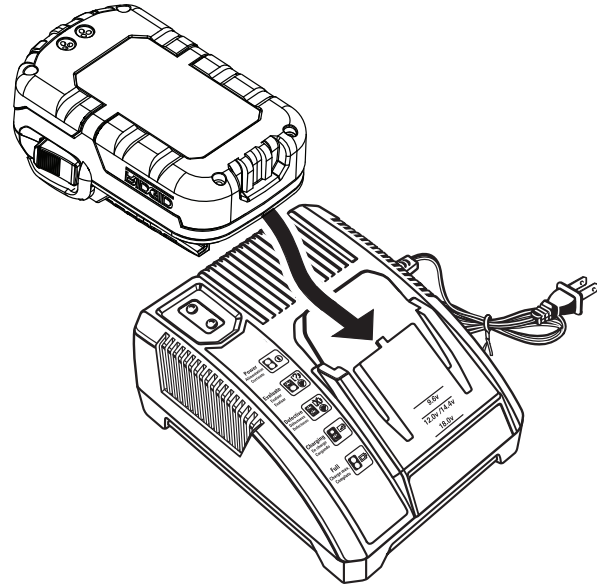

Fig. 2
- Attach the battery pack to the charger by aligning the raised ribs on the battery pack with the grooves in the charger, then slide the battery pack onto the charger. See *Figure 2*.